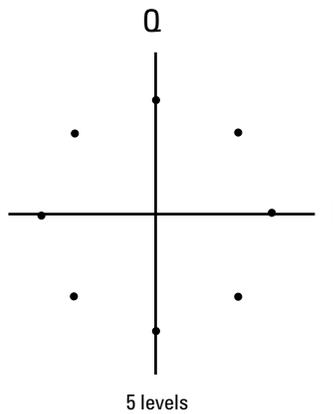

Figure 14. 8PSK I/Q map with five levels
- The map is limited to 16 total signal levels for I and Q combined. The readout on the right-hand side of the table tracks the number of I and Q levels utilized. Levels are I or Q values. Figures 14 and 15 show an 8PSK signal built in two different ways. The 8PSK signal in Figure 14 utilizes five of the available sixteen I/Q values. The 8PSK signal in Figure 15 utilizes four of the available sixteen I/Q values.